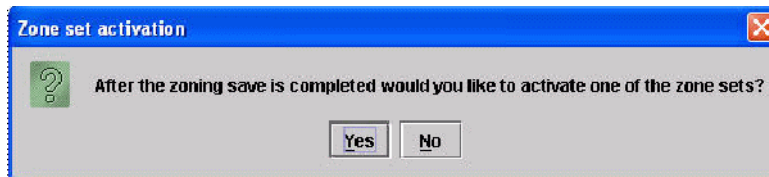

Figure 7-29 Zone set activation window
20. Select **Yes** to activate your zone set(s) (Figure 7-29) once the save is complete. You should select **No** if you are not prepared to activate the zone set.